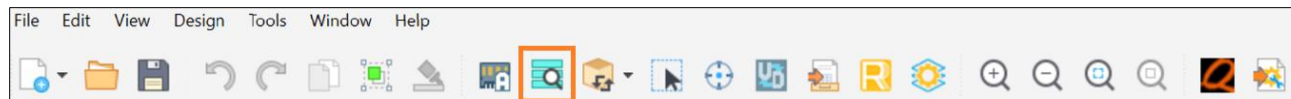

Figure 5.14. Validate the Design in Lattice Propel Builder
- To validate the design, select **Design > Validate Design** or click the **Validate Design** icon (as shown in Figure 5.14).